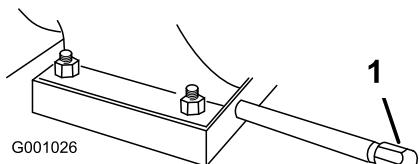

Figure 54
1. Clean the area around the oil drain cap (Figure 54).